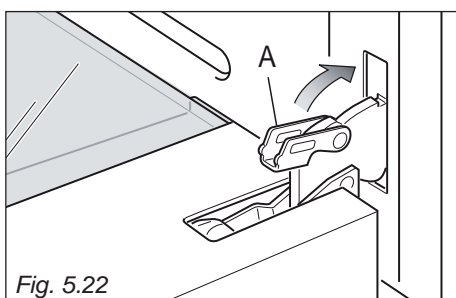

Fig. 5.22
- Unlock the oven door by opening it completely and closing the lever "A" on the left and right hinges (fig. 5.22).